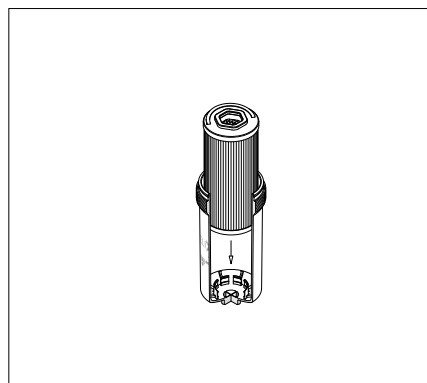
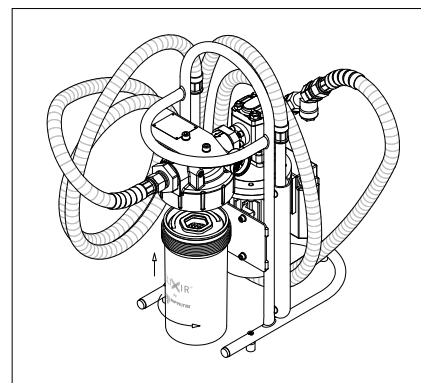

fig. 4
fig. 6
- (Fig. 4) Push the filter element into the bowl until the end cap hooks onto the internal teeth.
- (Fig. 6) Fit the filter element on the tap and screw the bowl (please see fig. 4 to 6)